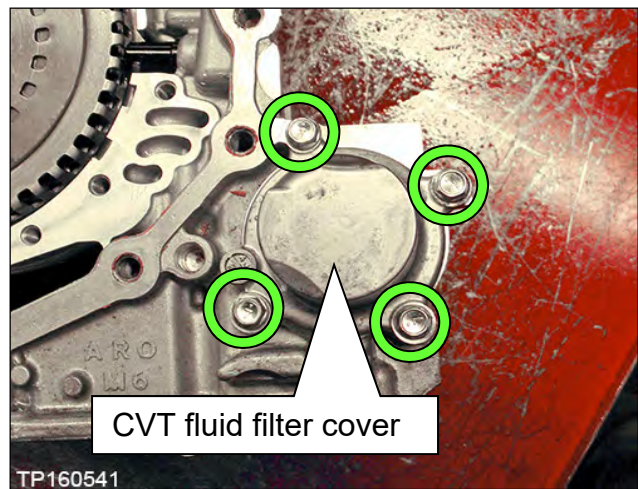

Figure 52
- a. Remove the 4 bolts and then remove the CVT fluid filter cover (Figure 52).